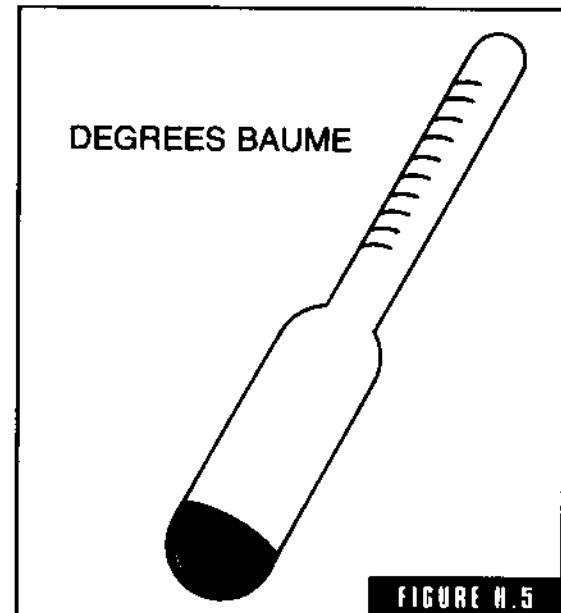

FIGURE H-5
**hydrometer** An instrument used to check the *baume*, the specific gravity of liquids (Fig. H-5).